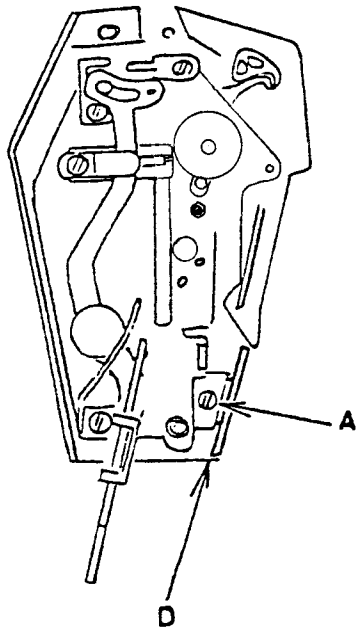

Fig. 6-2
4. Remove screw (A) from inside needle head end. (Fig. 6-2).
5. Remove screw (B) at underside of bed at handwheel end.